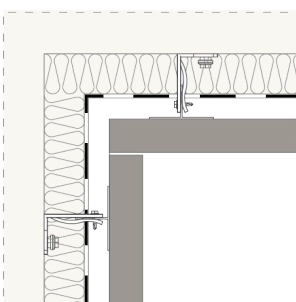

Fig. 4
- by joining the boards edge-to-edge at the inner corner (see Fig. 4; 5)